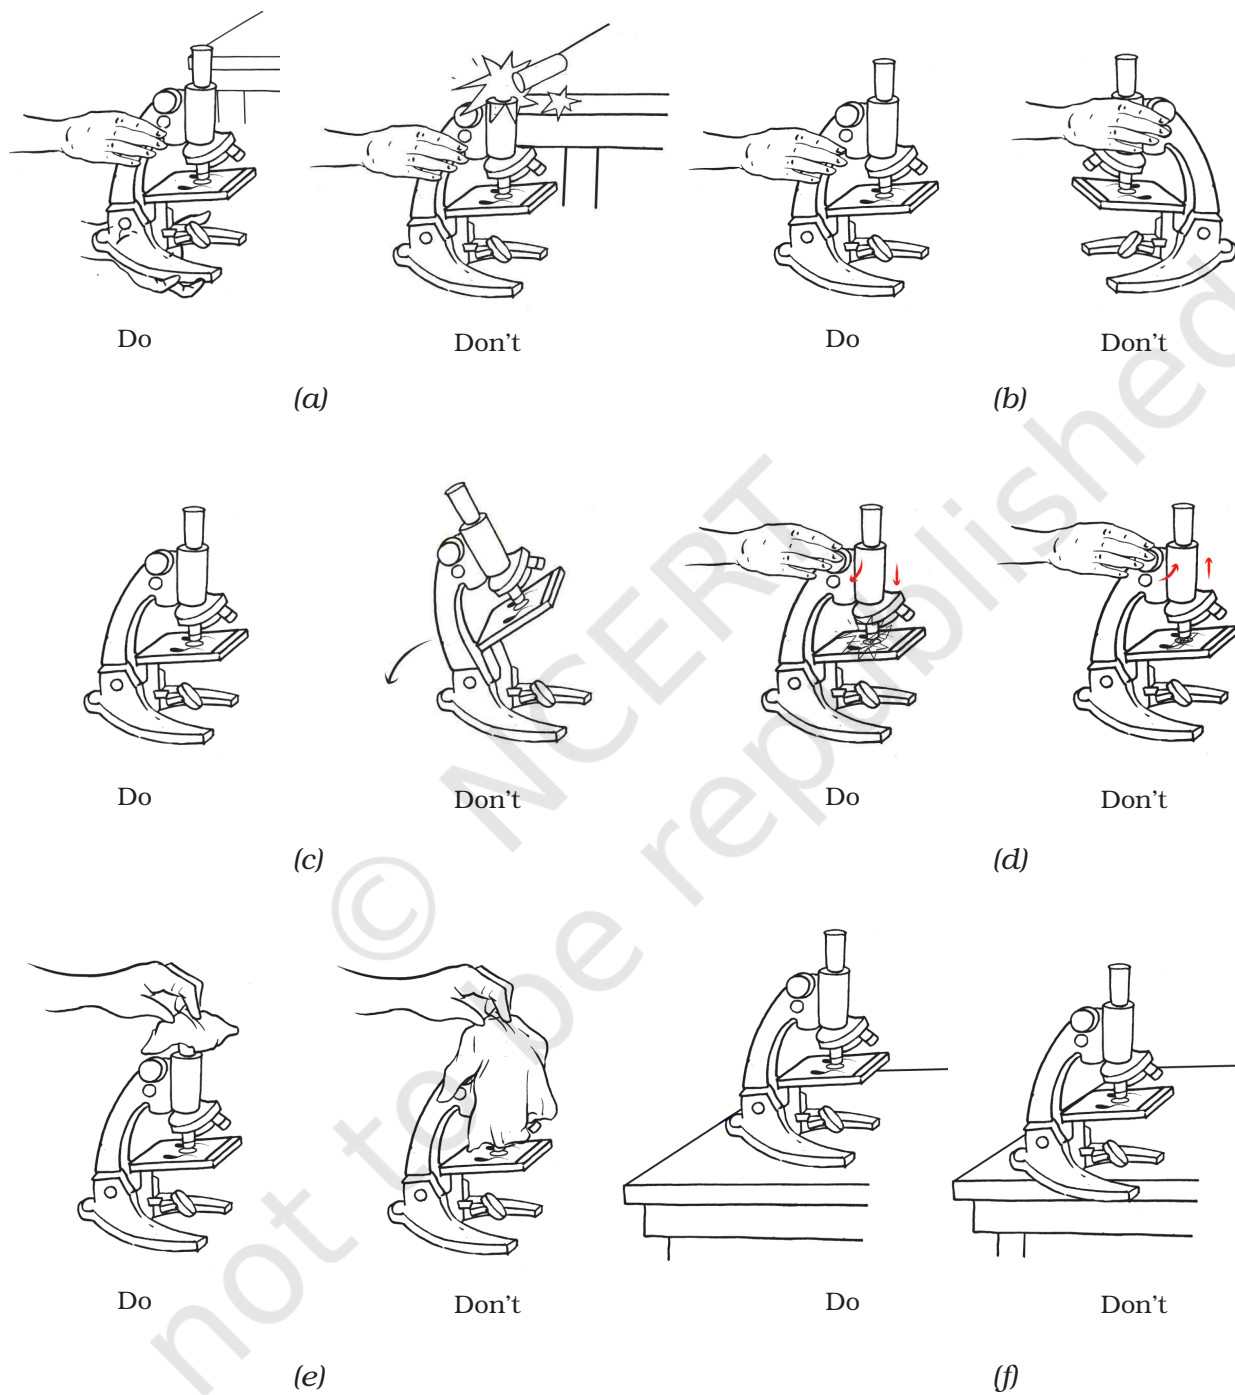

Fig. 2.2 : Handling of a compound microscope
- While carrying the microscope, hold its arm with one hand and support the base with the other [see Fig. 2.2(a)].
- Place the microscope with its arm facing yourself [see Fig. 2.2(b)].
- Do not tilt the microscope, keep it in upright position [see Fig. 2.2(c)].
- Do not use coarse adjustment when viewing through high power objective [see Fig. 2.2(d)]. The slide may break.
- Use a tissue paper (or clean silk or muslin cloth) for cleaning lenses and mirror [Fig. 2.2(e)].
- Place the microscope gently on the working table about 15 cm away from the edge of the table to prevent its accidental fall [Fig. 2.2(f)].